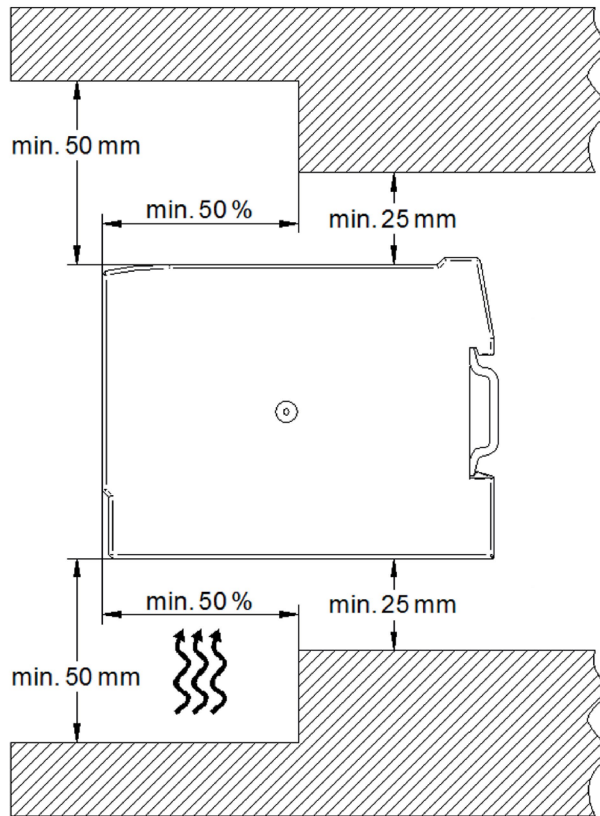

Figure 3-3 Clearances
- for the PSE202U NEC Class 2 (6EP1962-2BA00) and PSE202U 2 x 5 A (6EP1964-2BA00) the input terminals are at the top and the output terminals at the bottom. Clearances must be maintained above and below the device (see Figure 3-3 Clearances (Page 56)).